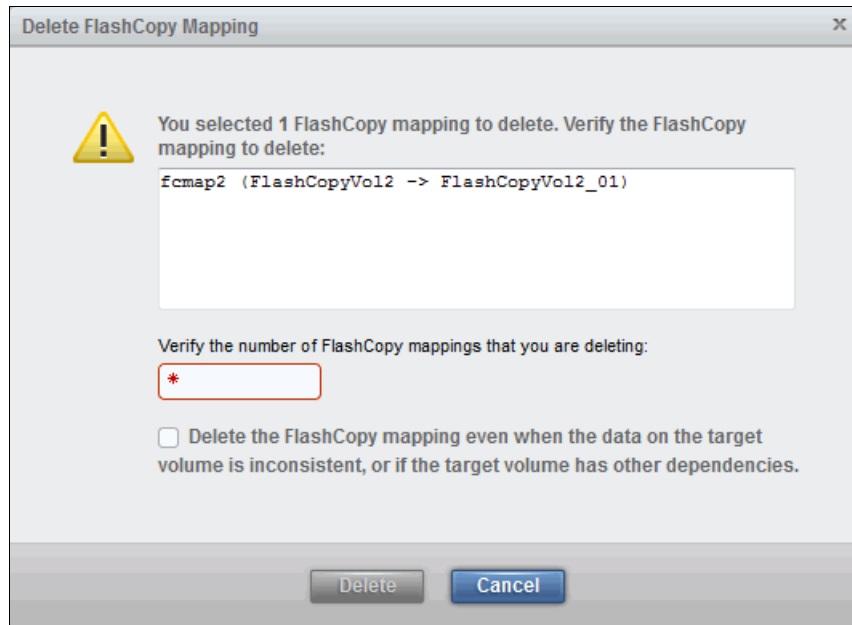

Figure 10-37 Confirm the deletion of FlashCopy mappings
3. You must confirm your action to delete FlashCopy mappings in the window that opens, as shown in Figure 10-37. Verify the number of FlashCopy mappings that you want to delete. If you want to delete the FlashCopy mappings when the data on the target volume is inconsistent with the source volume, select the option to do so.